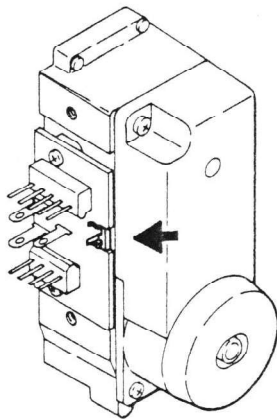

Figure 14
3. When mounting a new laser pick-up, first connect the connector and leads and then remove short-circuit spring on the P.C. Board (Refer to Fig. 14 and 15).